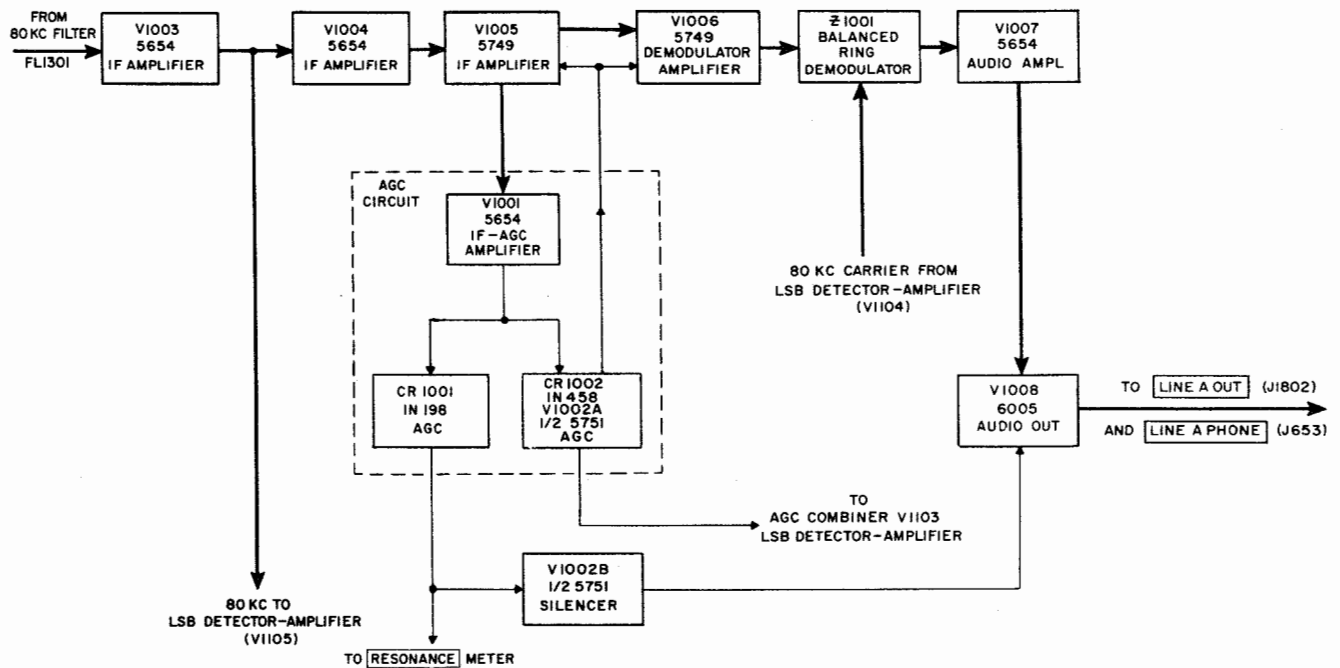

Figure 4-26. Upper-Sideband Detector-Amplifier, Block Diagram
(See figure 4-26.)
a. GENERAL.—Two detector-amplifiers comprise the single-sideband portion of the receiver, making possible either upper- or lower-sideband reception, or both simultaneously. This paragraph discusses operational theory of the upper sideband. Figure 4-26 is a related functional block diagram. Lower-sideband operation is discussed in paragraph 4-10.